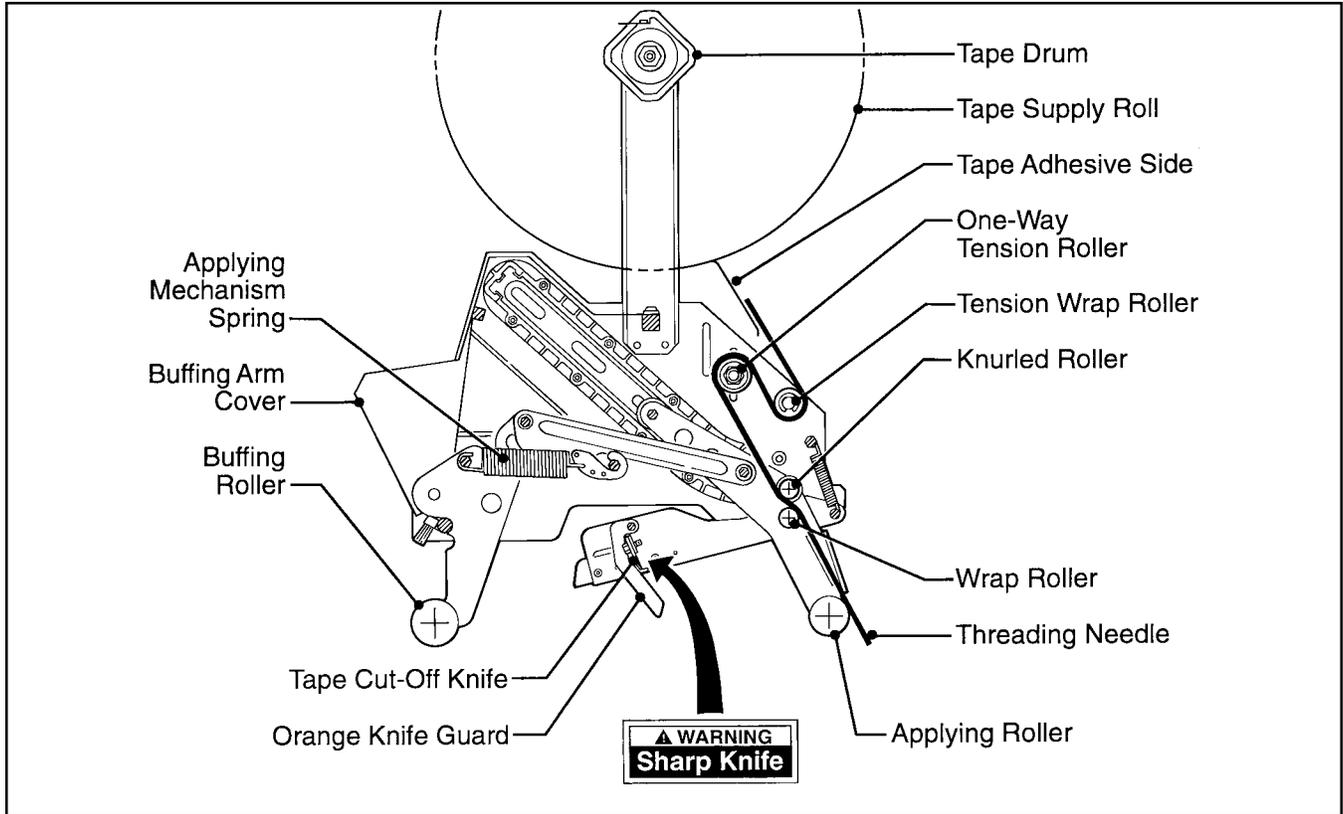

Figure 3-1 – Taping Head Components/Threading Diagram, Upper Head (Left Side View)
Before working with the taping heads or loading/threading tape, refer to Figures 3-1 and 3-2 (page 6) to identify the knife location. **Keep hands out of these areas except as necessary to service the taping heads or to load/thread tape.**
**WARNING – Taping heads are equipped with an extremely sharp tape cut-off knife. The knife is located under the orange knife guard which has the "Warning – Sharp Knife" label. Before working with the taping heads or loading tape, refer to Figures 3-1 and 3-2 on page 6 and identify the knife location. Keep hands out of these areas except as necessary to service the taping heads.**
3. The taping heads are equipped with an extremely sharp cut-off knife. Before working with the taping heads or attempting to load/thread tape, refer to Figures 3-1 and 3-2 and identify the knife location. Keep hands out of these areas except as necessary to service the taping heads.
The applying mechanism spring, shown in Figures 3-1 and 3-2, controls applying and buffing roller pressure on the box and returns the mechanism to the reset position. The spring pressure is pre-set, as shown in Figure 5-3A for normal operation, but is adjustable.